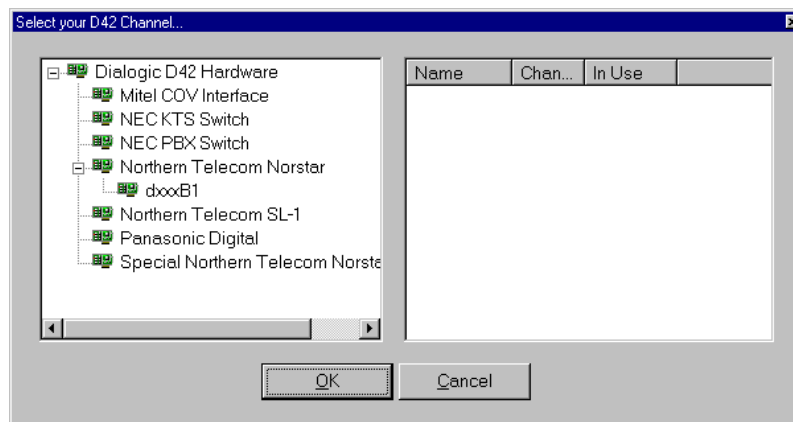

Figure 22. Select Your D/42 Channel
11. From the **File** menu, choose **Open**. The *Select Your D42 Channel* window displays, as shown in *Figure 22*.